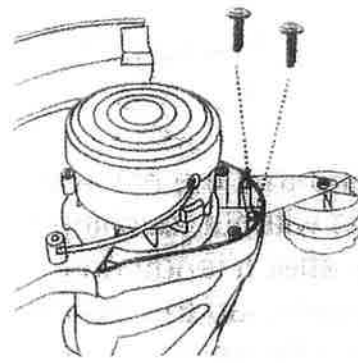

Fig.3
- Insert the Edging wheel (11) onto the safety guard with 2 screws.(Fig.3)